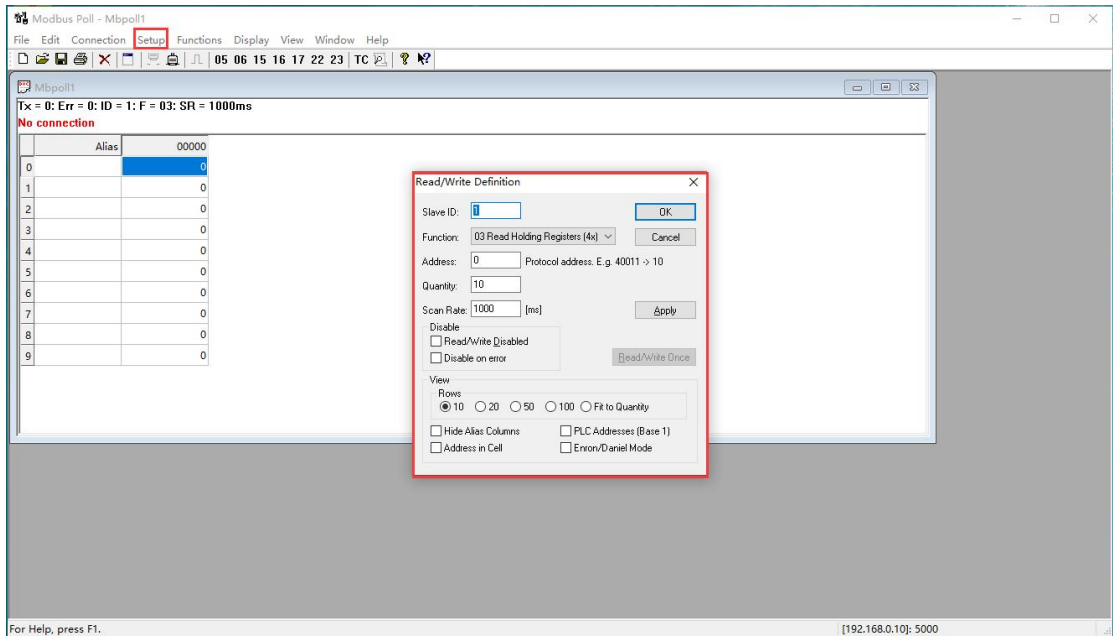

Figure 6-23 Modbus Master Creation
3) Set the computer IP to 192.168.0.1 (consistent with the remote IP set in the module), and open "Modbus Poll". Tool, other parameter settings are as shown in Figure 6-23, ID is set as 1, and function code is selected as 3.